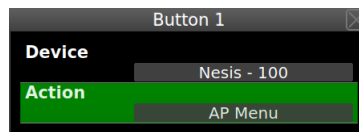

Figure 74: Joyu button 1 was assigned to Nesis with serial number 100 with the autopilot menu action.
2. Assign a device from the list and its action to the button pressed in the previous step. Figure 74 shows an example for button 1.